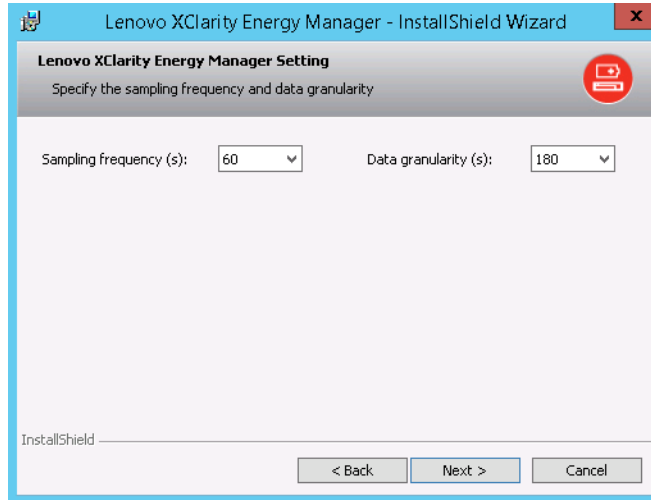

Figure 7-30 Set frequency and granularity of data
8. Set the sampling frequency and granularity of data as shown in Figure 7-30.